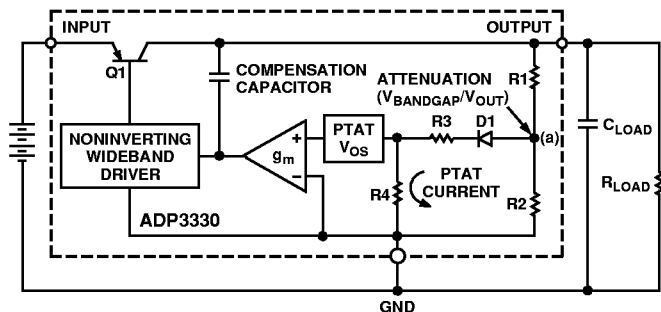

Figure 20. Functional Block Diagram
To reduce the noise gain of the loop, the node of the main divider network (a), as shown in Figure 20 is made available at the noise reduction (NR) pin which can be bypassed with a small capacitor (10 nF–100 nF).